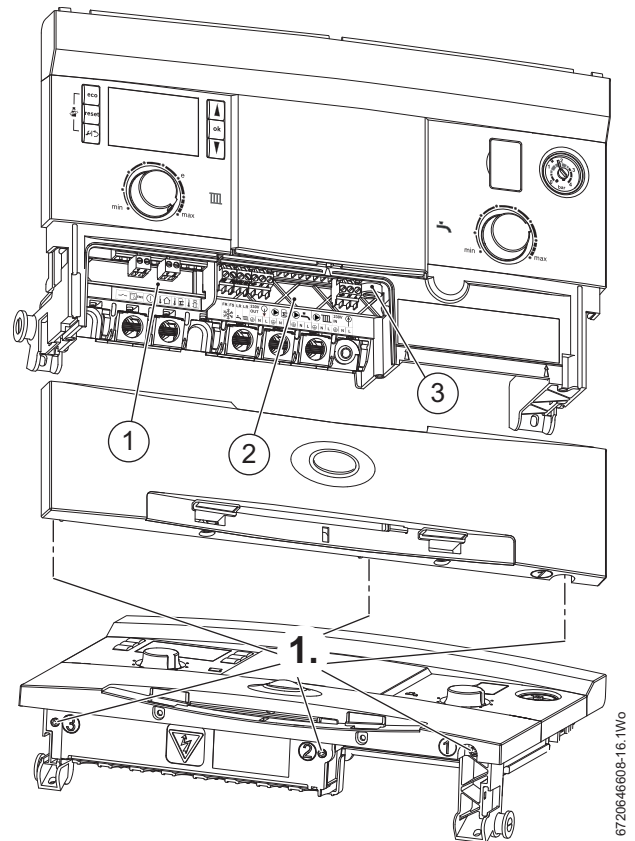

Fig. 48 Removing the installer access cover
1. Refer to figure 48 and release the three captive screws securing the Installer access cover.